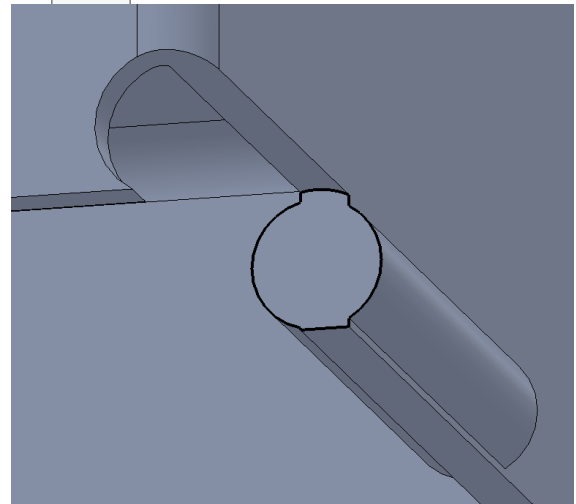

Fig. 14
Step 2. With the face still selected, click **Convert Entities**  on the Sketch toolbar, **Fig. 14**.